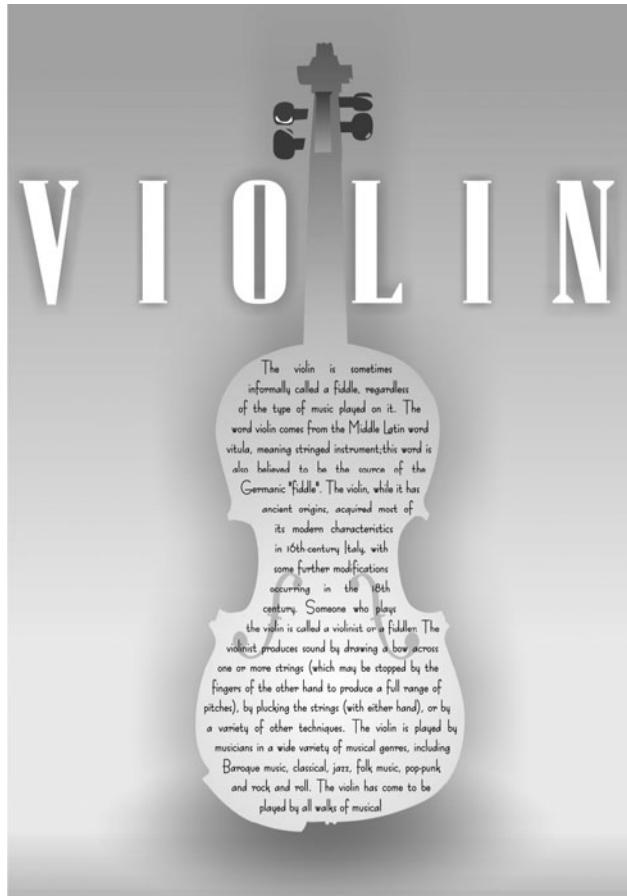

FIGURE 20-8 Create an elegant symbiosis of text as a graphic combined with a simple CorelDRAW drawing.
7. Optionally, choose a more elegant typeface than Arial. Select the text with the Pick tool, and then on the property bar choose a font you have installed. Figure 20-8 shows Bernard Fashion used. End of exercise, pretty fancy graphic use of the Envelope tool!